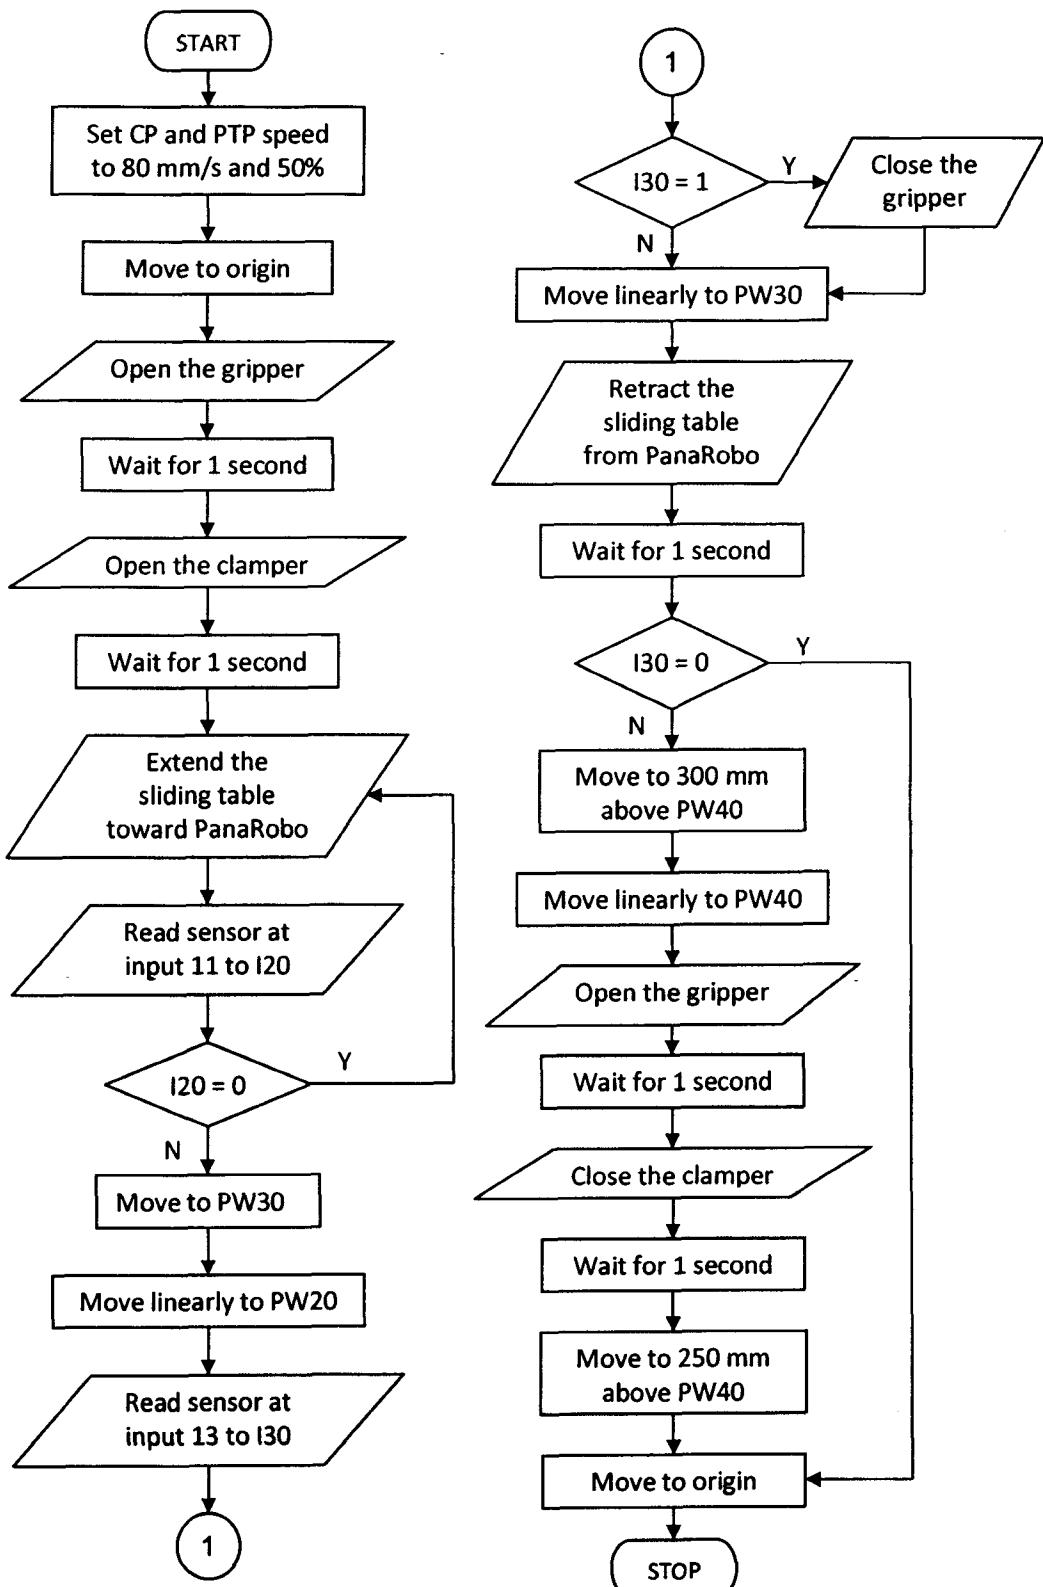

Figure Q1[e]
- [c]** The flow chart in Figure Q1[c] shows the task of PanaRobo robot to pick a component from a sliding table and place it on an assembly station. The Output 1, 3 and 7 of the robot are connected to the gripper, clamping cylinder and sliding table cylinder respectively. The input 11 and 13 of the robot are connected to the magnetic sensor at the sliding table pneumatic cylinder and the optical sensor at the gripper respectively. Write a program for the robot according to the given flow chart.